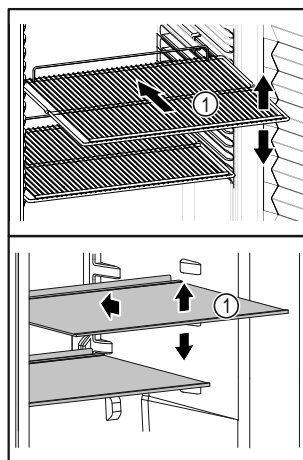

Fig. 53 Example illustration
- ❑ If storage surfaces Fig. 53 (1) are movable, adjust them according to height.